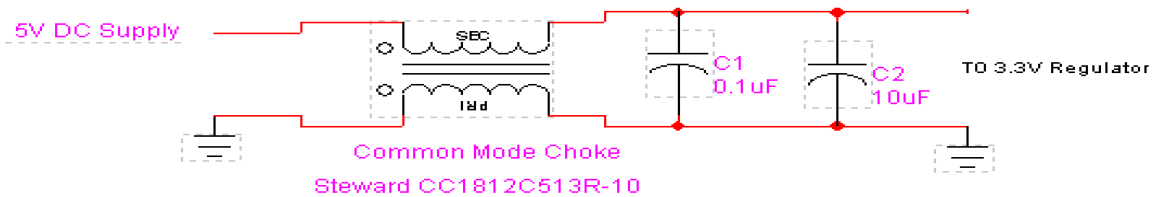

Figure 2.5 Common Mode Choke on PCB DC Input
- Common mode chokes may be added to the design at the point where DC power enters the PCB as shown below in Figure 2.5. This attenuates emissions that would otherwise be radiated from the system power cord. Common mode chokes will have some impedance at a given frequency. Choose the number of chokes and/or type of ferrite material to provide adequate attenuation at the frequencies in the system that may generate unwanted emissions.